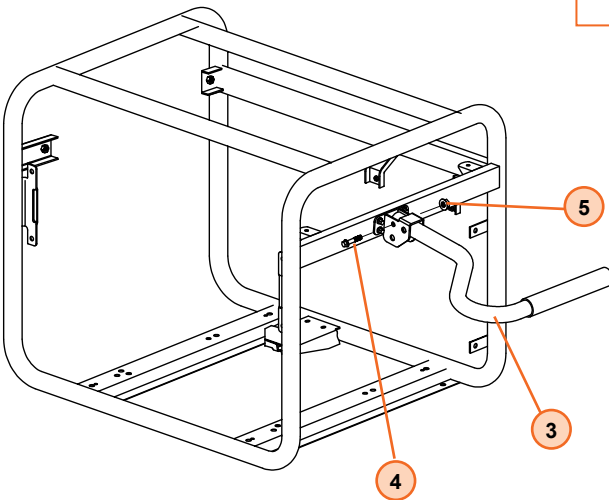

Figure 4
Step 2. Installing the handle (see Figure 4):
1. Attach the handle ③ to the handle bracket with a hex bolt ④ and secure with a hex nut ⑤.